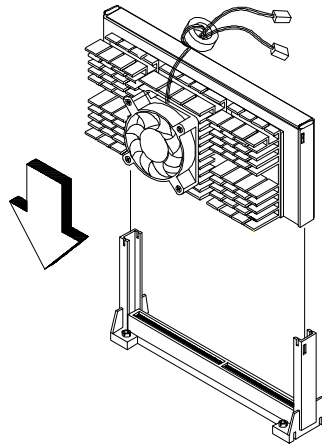

Figure 1-8 *Installing a Pentium II Processor*
2. With the processor module golden fingers pointing downward, align the processor to the posts of the retention mechanism then lower it down. See Figure 1-8.